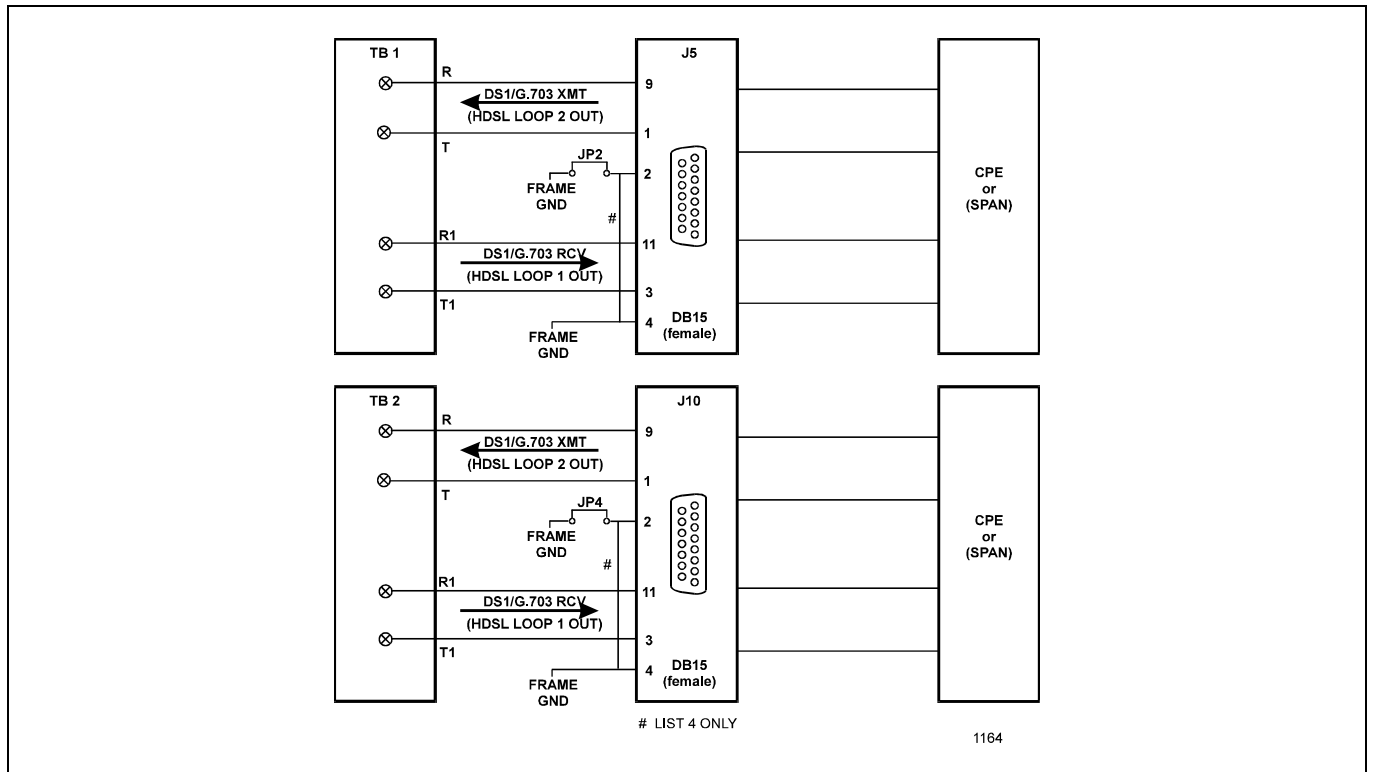

Figure 13. List 3 and List 4, DB-15 Pin Assignments.
The CPE DS1 circuits connect to the HRU-412 Remote Units either through the DB-15 jacks (J5 and J10, see Figure 13) located on the rear panel of the HRE-422, or directly to the TB1 and TB2 terminal blocks. If you use the terminal blocks, connect the DS1 circuits as described in paragraph 11.01.
**13.03 G.703 120-Ohm Connections to CI.** The CPE G.703 120-ohm balanced interface circuits connect to the HRE-422 Remote Units either through the DB-15 jacks (J5 and J10) located on the rear panel of the HRE-422 (Figure 13), or directly to the TB1 and TB2 terminal blocks. If you use the terminal blocks, connect the G7.03 output from the CPE (XMT) to the T and R terminals of TB1 and TB2. Connect the G.703 input to the CPE (RCV) to the T1 and R1 terminals of TB1 and TB2.